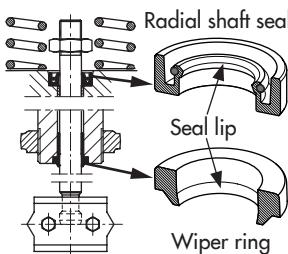

Fig. 9-2: Aligning the radial shaft and seal wiper ring
6. Use a suitable tool to mount the radial shaft seal. Observe the correct alignment of the radial shaft seal (see Fig. 9-2).